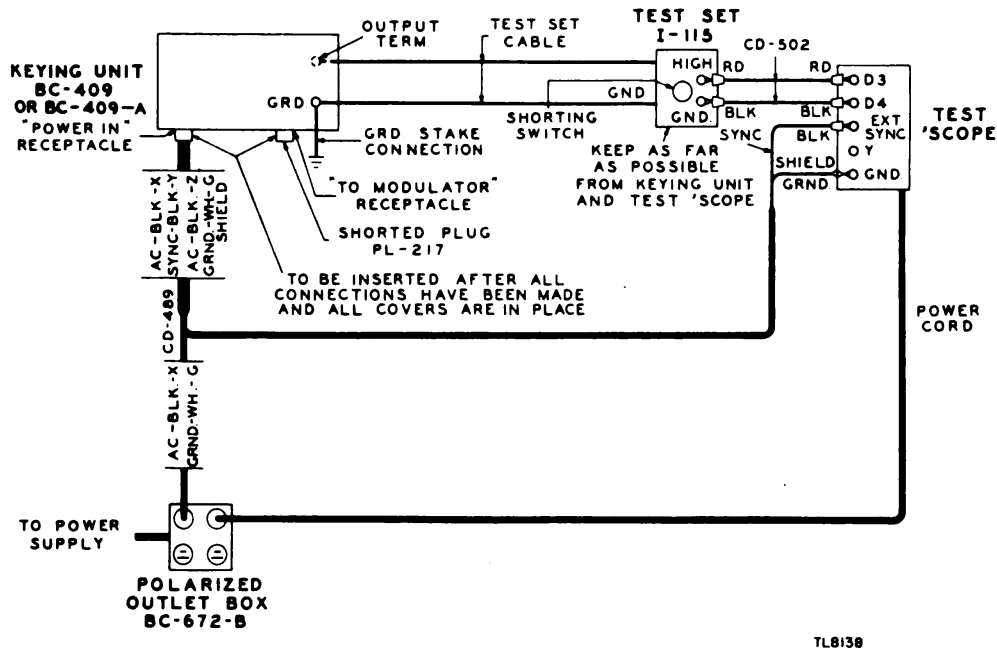

Figure 21. Test Set I-115, connections.
b. Locating and Connecting. The test connections for using Test Set I-115 are shown in figure 21. The test set cable is connected to the output and ground terminals of the keying unit. Cord CD-502 then connects the output terminals of the test set to terminals D3 and D4 of the test oscilloscope. For additional personal protection, locate Test Set I-115 as far away from the keying unit and the test oscilloscope as possible. If the shorting-switch should be operated while the high voltage is on, there would be approximately 3,000 volts on the test set output terminals. If capacitor 1 should become shorted the same condition would occur.